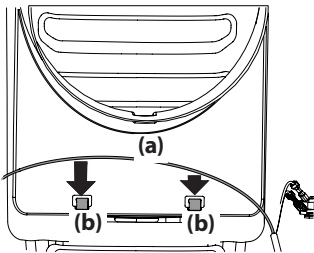

Figure 12
4. Secure the headlight harness (a) into the two guides (b) on the front of the plenum. Figure 12.